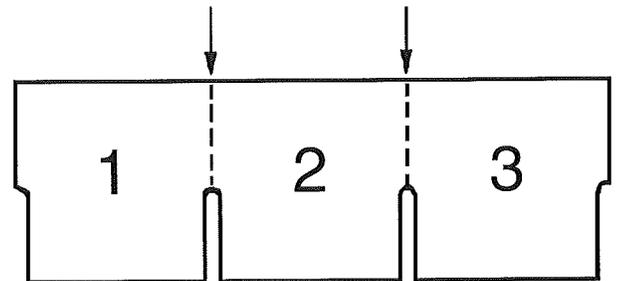

FIG. 5-24
- 10. Cut shingles for ridge cap and install as shown in Figures 5-24 and 5-25.